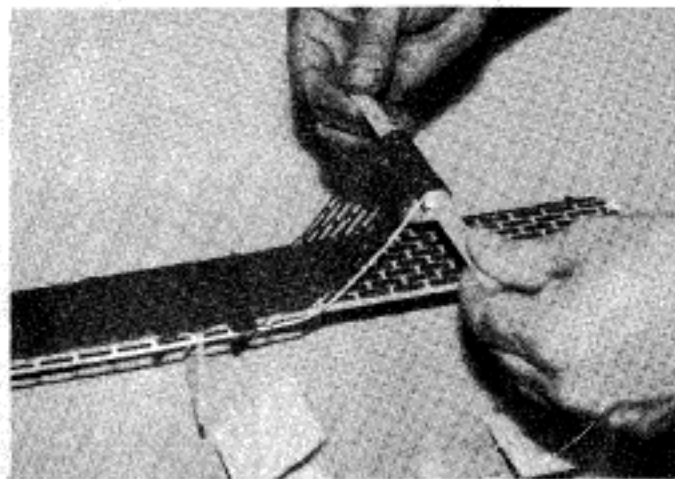

Figure 8
7. Remove the webbing while the brick is still soft. Roll the stick under and raise it up so the webbing is at about a 45 degree angle to the surface. Keep rolling the webbing onto the stick. If needed, touch up the bricks while they are still soft. Figure 8.